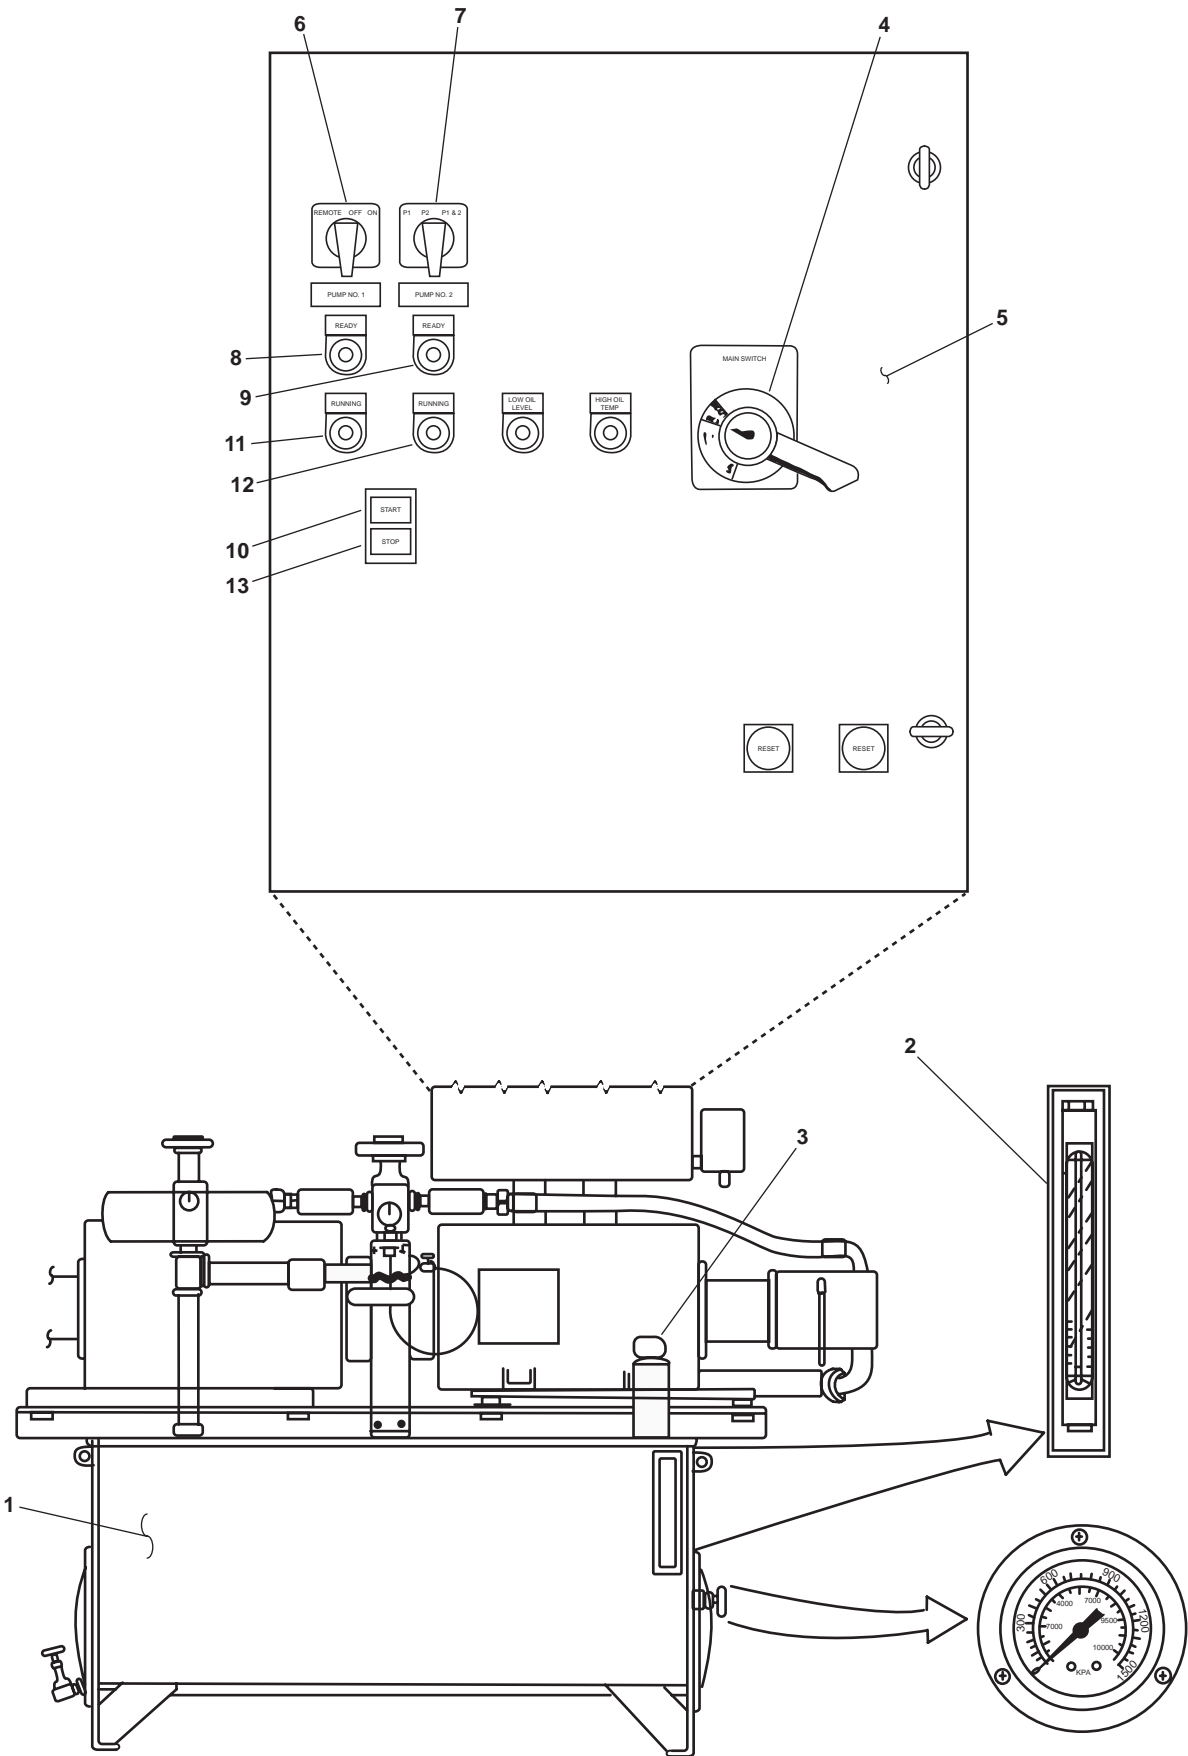
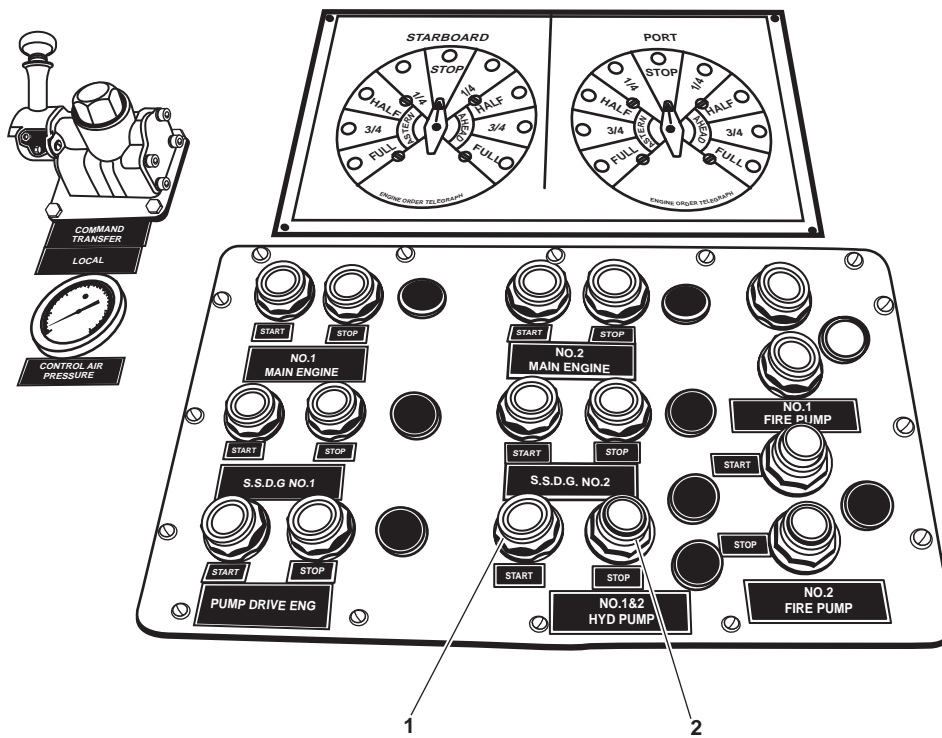

Figure 2. Central Hydraulic System, Hydraulic Power Unit
Figure 4. Remote Control Station (EOS)
2. In the engine room, on the port side, at the central hydraulic system reservoir (figure 2, item 1), verify that the hydraulic fluid level is at $\frac{3}{4}$ full in the hydraulic reservoir sight glass (figure 2, item 2). If the hydraulic fluid level is low, add hydraulic fluid at the breather (figure 2, item 3) until the fluid level on the sight glass is $\frac{3}{4}$ full.
4. Set to ON the MAIN switch (figure 2, item 4) on the central HPU motor controller (figure 2, item 5).
5. To enable local operation of the central hydraulic system, set to ON the REMOTE/OFF/ON switch (figure 2, item 6) at the central HPU motor controller (figure 2, item 5). To enable remote operation from the Enclosed Operating Space (EOS), set to REMOTE the REMOTE/OFF/ON switch.
6. Set the P1/P2/P1 & 2 switch (figure 2, item 7) to the P1, P2, or P1 & P2 position. In the P1 position, pump 1 is enabled; in the P2 position, pump 2 is enabled; and in the P1 & P2 position, both pumps are enabled.
7. Verify that the READY light (figure 2, item 8 and/or 9) is illuminated for the selected pump(s).
8. If local operation was selected in step 5, press the START pushbutton (figure 2, item 10) to start the selected pump(s). If remote operation was selected, press the NO.1 & 2 HYD PMP pushbutton (figure 4, item 1) to start the selected pump(s).
9. Verify that the RUNNING indicator(s) (figure 2, items 11 and/or 12) are illuminated for the selected pump(s).
2. If local operation was selected during the startup procedure, press the STOP pushbutton (figure 2, item 13) at the central HPU motor controller. If remote operation was selected during the startup procedure, press the STOP pushbutton (figure 4, item 2) at the remote control station.
3. Verify that the RUNNING indicator(s) (figure 2, items 11 and/or 12) extinguish for the selected pump(s).
4. Set to OFF the REMOTE/OFF/ON switch (figure 2, item 6) on the central HPU motor controller (figure 2, item 5).
5. Set to OFF the MAIN switch (figure 2, item 4) on the central HPU motor controller (figure 2, item 5).